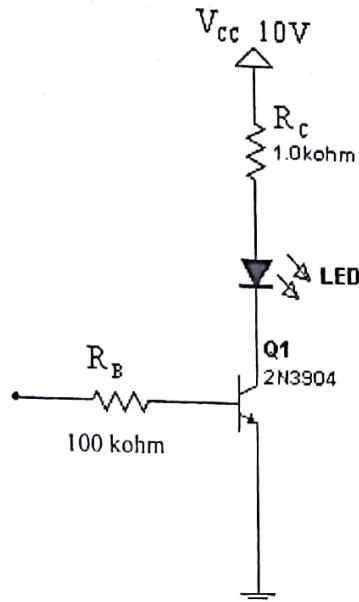

Fig.10: Transistor as a Switch
9. Build the following circuit shown in Figure 10 using the NPN transistor. Be sure to include the current limiting resistor R_C in series with the Light Emitting Diode (LED) or it may be damaged.
10. Make sure that one end of R_B is connected to ground as shown in Figure 10. Measure and record the voltages at the Base (V_B), Emitter (V_E), and Collector (V_C). What do you observe?